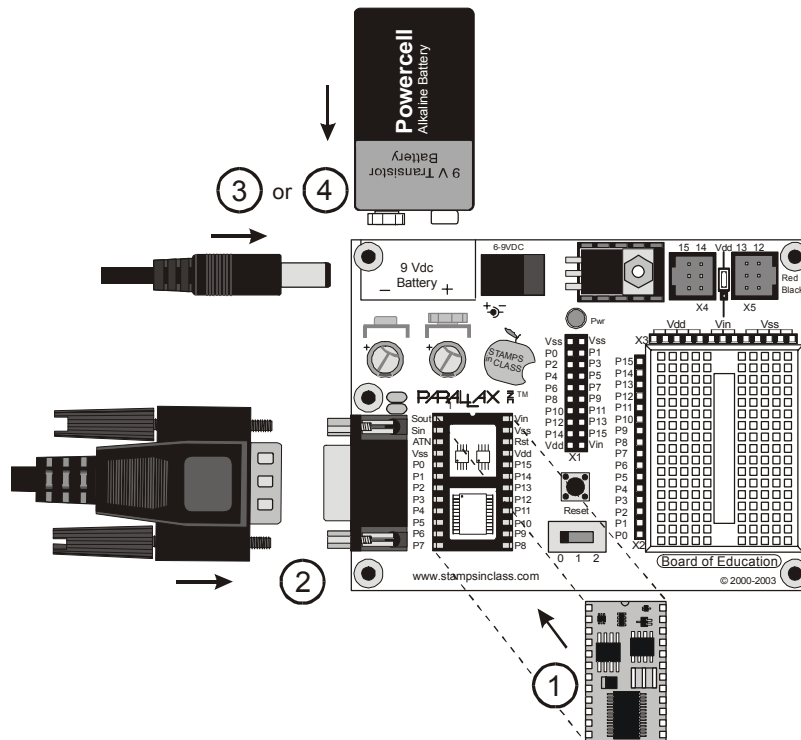

Figure 1-28
i **Only the Board of Education Rev C** has a 3-position switch. To turn off power on a Board of Education Rev B, simply disconnect the power source by either unplugging the DC supply or the battery. These are shown in Figure 1-28, step 3 or 4.
- √ If your BASIC Stamp module is not already plugged into your Board of Education, insert it into the socket, oriented as shown in Figure 1-28, step-1. Make sure the pins are lined up properly with the holes in the socket and not folded under, then press down firmly.